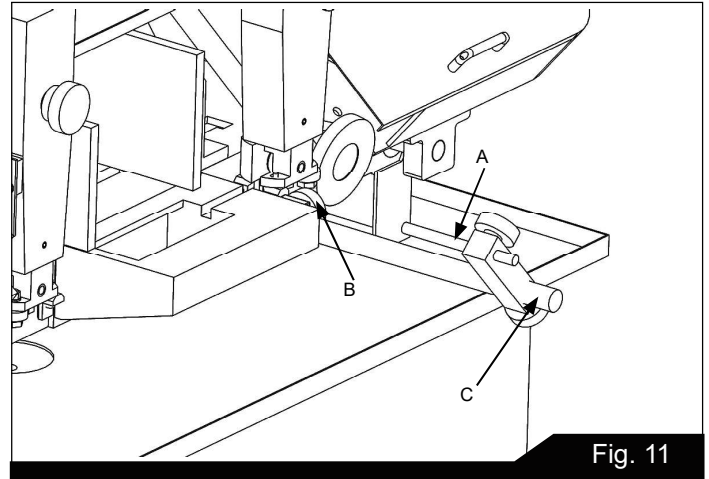

Fig. 11
The Stock Advance Stop is used mainly when more than one piece is to be cut to the same length. Simply position the stop block (A) Fig.11, the desired distance away from the blade.